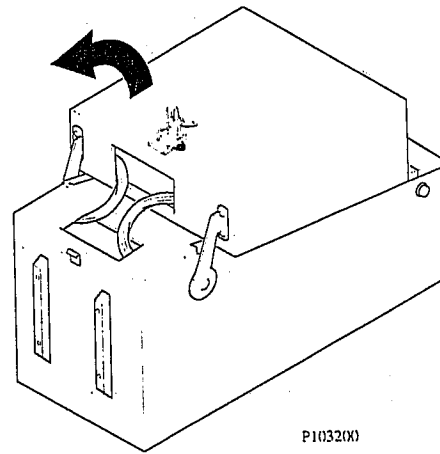

FIGURE 3: RAISING BACKBOX UPRIGHT
5) Raise the backbox to its upright position. Ensure that cables are not pinched (see Figure 3).